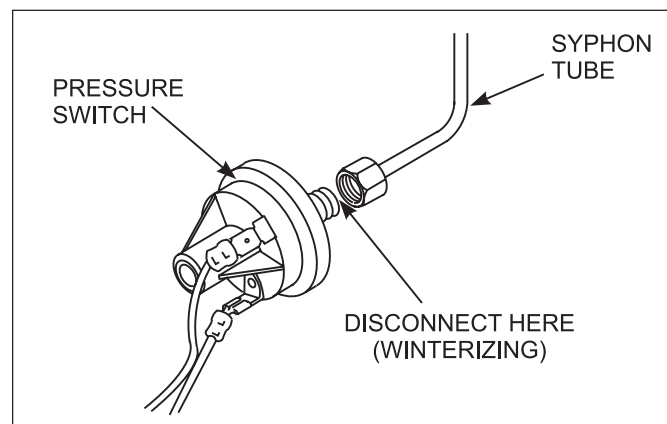

Figure 21. Pressure switch copper tubing.
8. Disconnect the pressure switch from the siphon tube (copper tubing) (see Figure 21).
1. Attach the copper tubing to the pressure switch (see Figure 21).